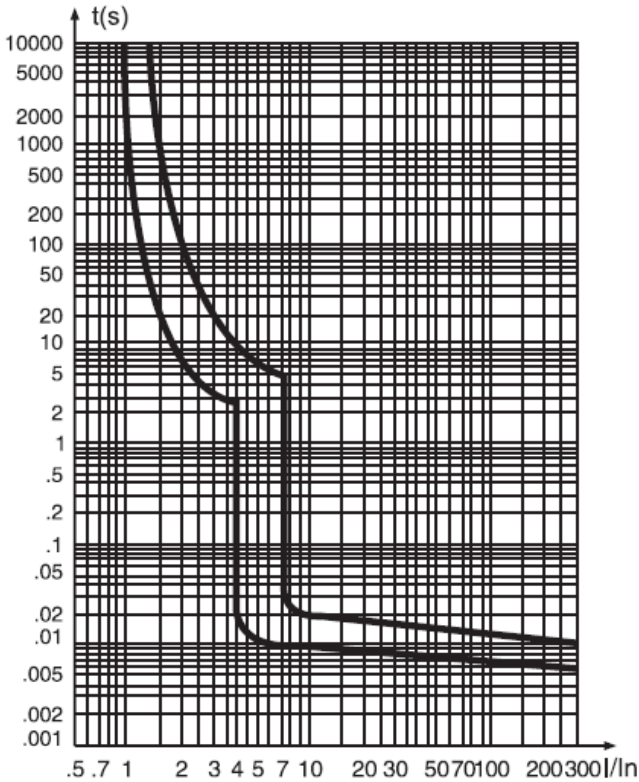
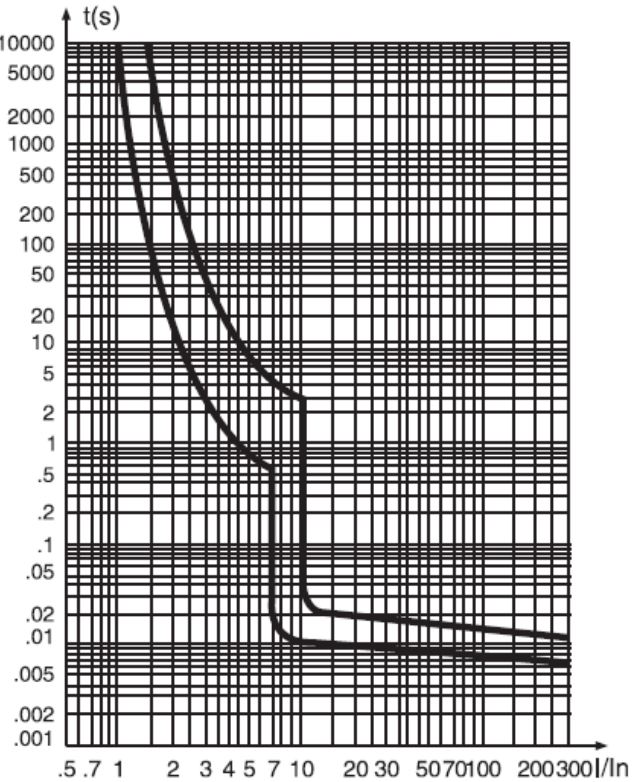

Fig. 2 B type thermal / electromagnetic trip characteristics curve
Fig. 3 C type thermal / electromagnetic trip characteristics curve
- The protection characteristics curves of circuit breaker are illustrated in Fig. 2 and Fig. 3